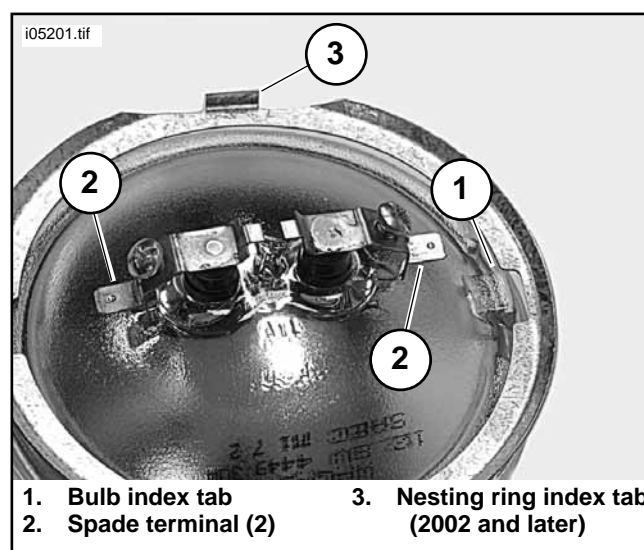

Figure 4. Auxiliary Lamp Bulb Terminals
8. Cut the conduit supplied in the kit into two equal-length pieces (each approximately 11 inches [100 cm] long), and slide a section of conduit (1) over the wires of each lamp (2).
9. Slide a swivel block (3) over the end the passing/fog lamp wires (2).
10. Slide a belleville washer (4) over the end of the passing/fog lamp wires, with the concave side of the washer facing the passing/fog lamp.
11. Install the lamp with swivel block and washer assembly on the mounting bracket (5), by routing the passing/fog lamp wires through the hole in the mounting bracket.
12. Slide a clamp block (6) and acorn nut (7) over the end of the passing/fog lamp wires, and install the acorn nut on the passing/fog lamp. Hand tighten the acorn nut at this time.
13. See service parts illustration. Locate the outer trim ring (13), inner nesting ring (16), screw (14), and nut (15).
14. See Figure 4. Place the inner nesting ring on the bulb. Connect the black wire to the bulb spade terminal next to the bulb indexing tab (1) on the bulb. Install the gray wire on the remaining spade terminal.